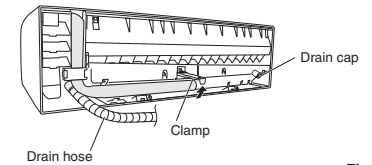

Fig. 3-99
- (a) Locate the drain hose and the drain cap. (Fig. 3-99)
- (b) Remove the screw fastening the drain hose on the right side, and pull out the drain hose to remove it. (Fig. 3-99)